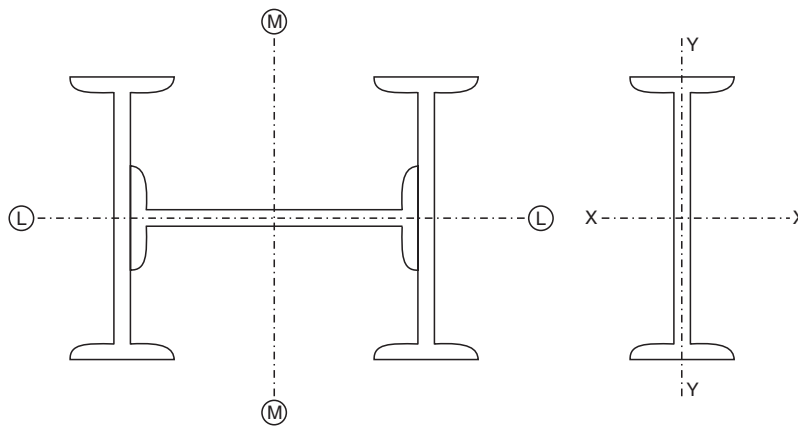

Fig. 5.25
**Example 5.6.** A stanchion is built up of three ISMB 225 as shown in Fig. 5.25. Calculate second moment of area of the built-up-section about the principal axes  $LL$  and  $MM$ , and the radius of gyration.
**Sol.** Refer to Fig. 5.25.